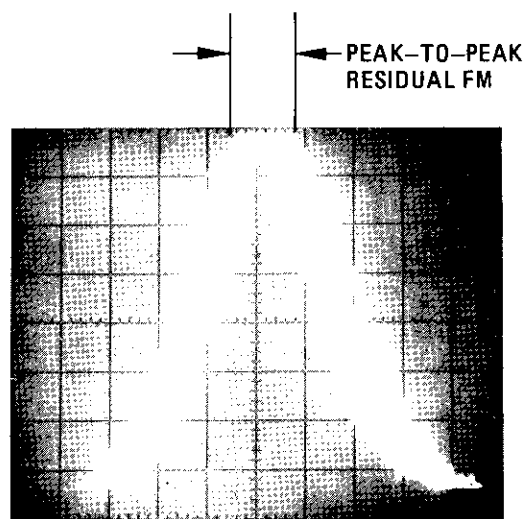

Figure 4-6. Residual FM Displayed on Spectrum Analyzer
- v. Spectrum analyzer display should be similar to Figure 4-6. Frequency deviation measured across top of trace should be less than 10 kHz peak (20 kHz peak-to-peak).